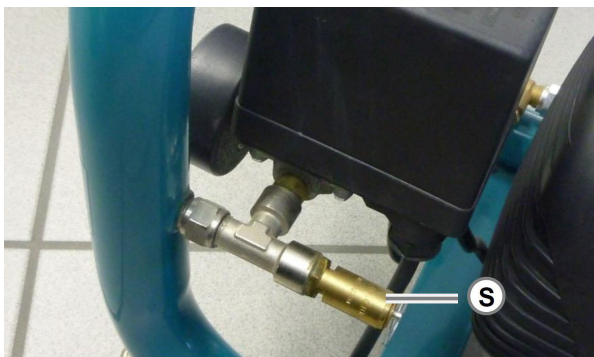

Fig. 12: Safety valve
Step 4: Open and close the safety valve (S, Fig. 12), beside the pressure switch) by pulling the ring (the tank must be under pressure). Check the safety valve for flawless function: It must open at overpressure.